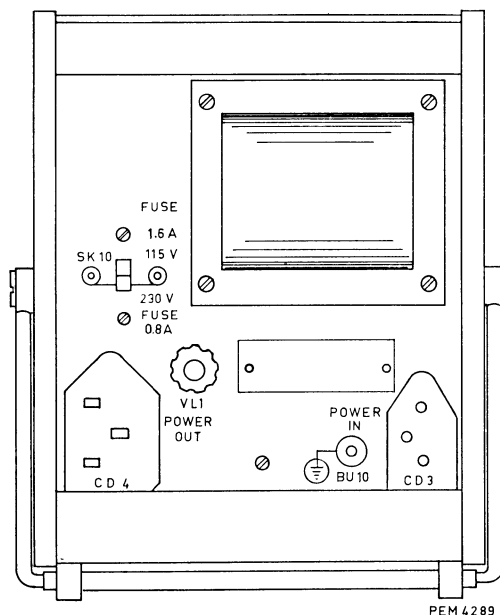

Fig. 6.
A. ADJUSTING TO THE LOCAL MAINS VOLTAGE (see Fig. 6)
B. EARTHING (see Figs. 6 and 7)